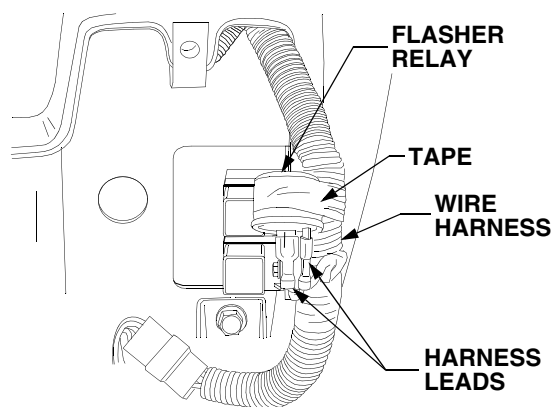

Figure 40
- Pull the wire harness from the right side of the dash opening and remove the electrical tape from the flasher relay. Refer to Figure 40.